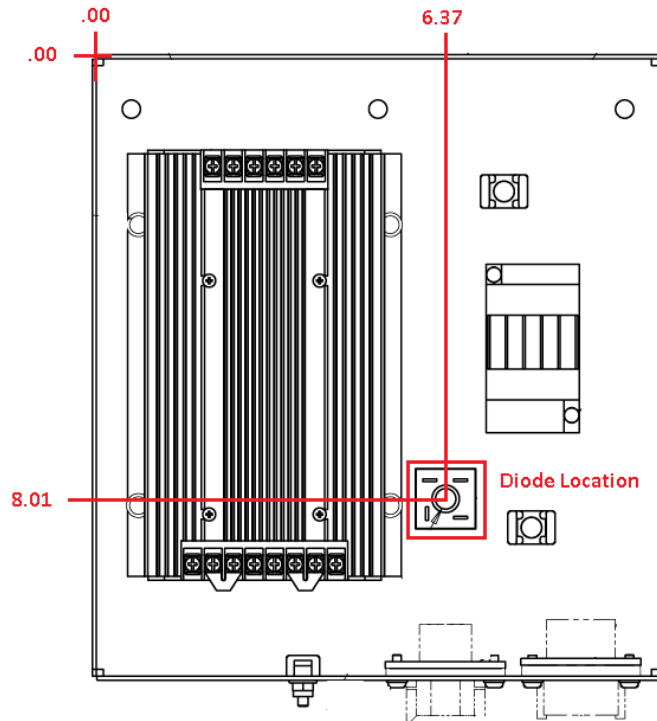

Figure 2: Diode mount location (red) on Ramp Panel
3. Drill and tap #10-24 into the ramp power panel at the location shown in Figure 2 for the bridge rectifier (P/N: 002174) to be mounted.